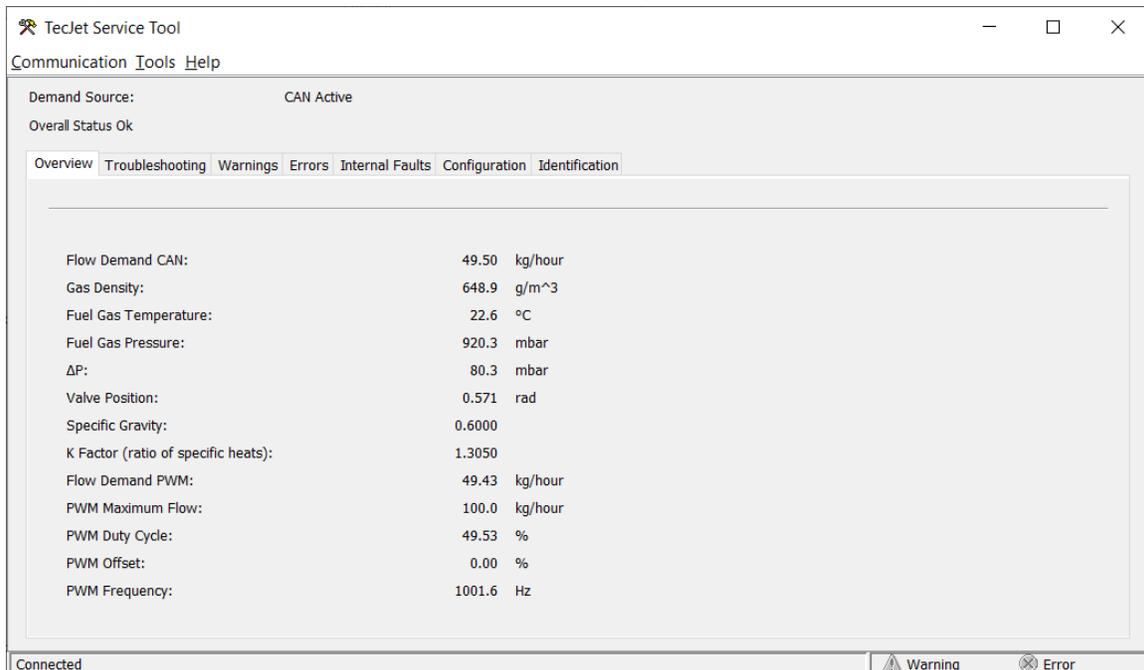

Figure 5-2. Overview Screen
Run the Service Tool program and, when prompted, select an available com port. This will connect the Service Tool to the TecJet control. Once connected to the control, the Overview screen (Figure 5-2) will open and populate with current values and the status bar will display 'connected'. The TecJet Demand Source and active Control Status messages are also displayed in an area common to all screens.
- Overview (Figure 5-2)